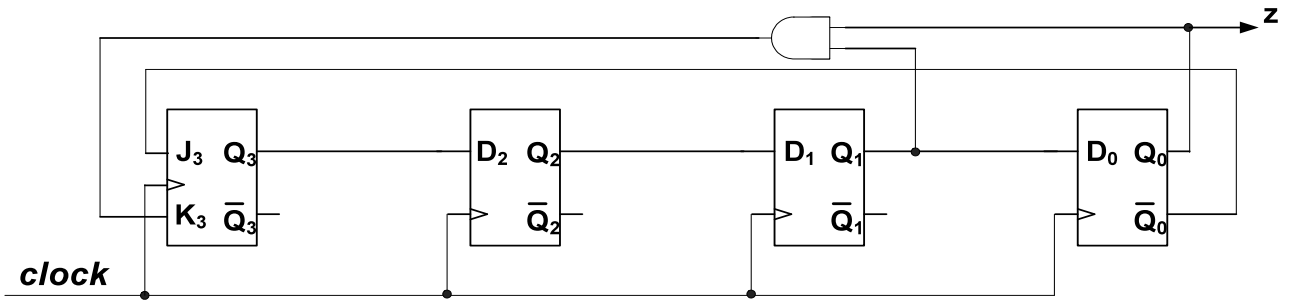

Figure 10 - Circuit for question 15.
15. The circuit from Figure 10 is used to generate a periodic sequence (it is assumed that after power up the state is 0000). If the frequency of the **clock** signal is 64 MHz, then signal **z**, which is also a periodic signal, has its frequency equal to: